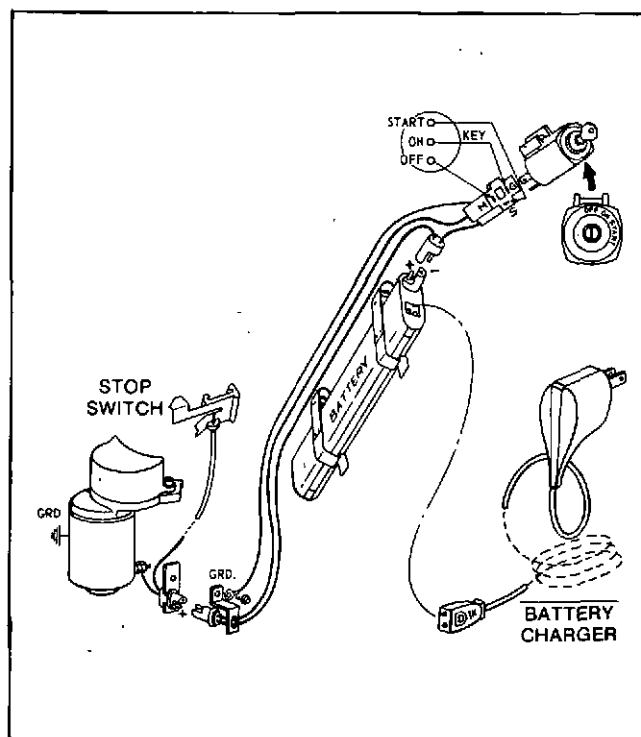

Fig. 49 — Wiring Diagram
- Poor electrical connection (wiring harness). See Fig. 49.
- Faulty wiring harness (open circuit). See Fig. 49.